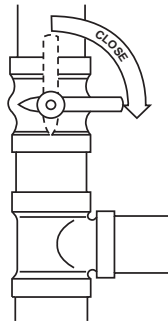

Fig. 4 – Close Valve
2. Close the external manual gas valve, see Fig. 4.
- Close the external manual gas valve, see Fig. 4.